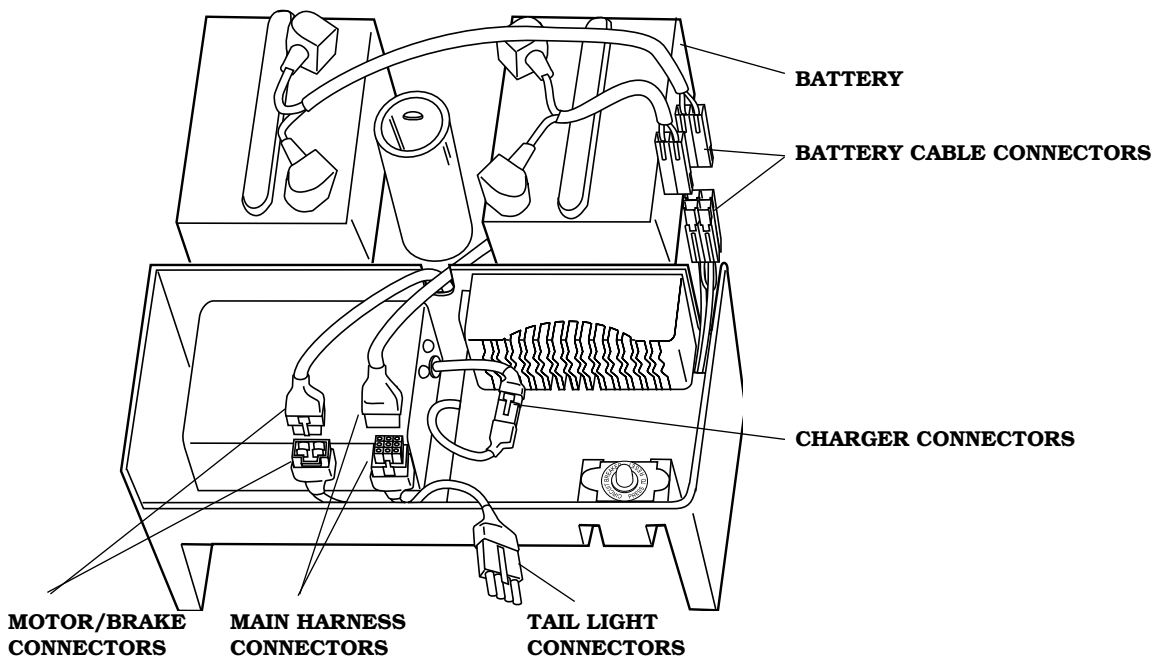

FIGURE 17. BATTERY DISCONNECTION
2. Disconnect the main harness connector from the electrical enclosure. See figure 17.
**NOTE:** The motor and the brake connectors (see figure 17) should be disconnected only if you are going to remove the rear electronics enclosure. If is not necessary to remove the charger connector while removing the rear electronics enclosure.